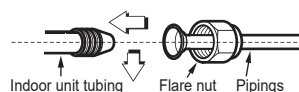

Fig.5-3
- Sufficiently tighten the flare nut (Refer to Fig.5-3)